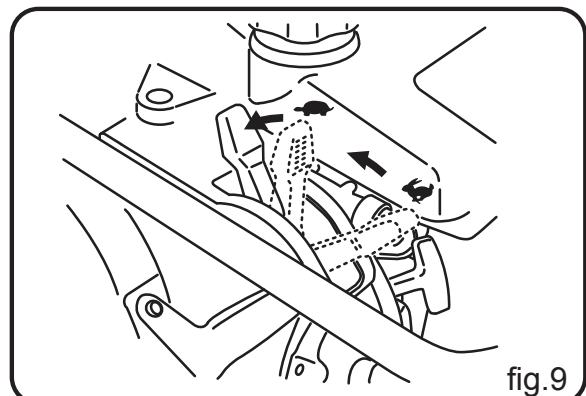

fig.9
- 1 Slide the throttle lever from the operation position(👉) to the idle position(👈). Run the engine at low speed for 3 to 5 minutes to cool it down. Then slide the throttle lever from the idle position to the stop position. The engine will stop and the fuel cock is closed automatically. (Fig.9)